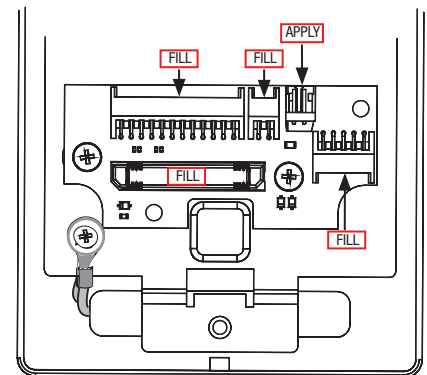
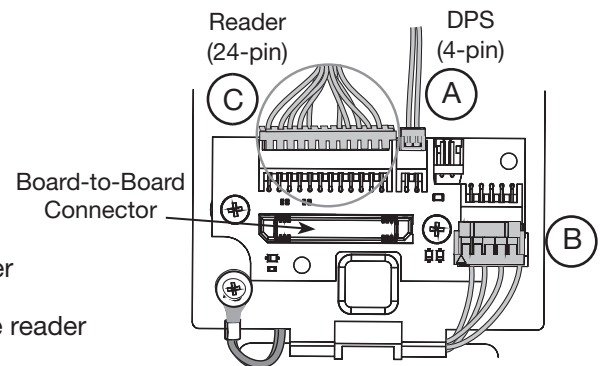

Fig. 11a
Fig. 11b
- Ensure all connector pins and contacts (Fig. 11a) are covered - do not overfill or over-apply**
IMPORTANT: Do not run wires through bottom hole in plate (Fig. 11a, b) - it will damage wires and the controller connector. Route wires around flange, do not route wires through the flange hole (Fig. 11b).
Secure the following connectors (Fig. 11b, c):
- Secure the mounting assembly while ensuring proper alignment of outside reader and fully tighten the (2) through-bolts on the inside of the door to secure the reader and plate to the door
C. Secure the 24-pin card reader connector (Fig. 11b, c).